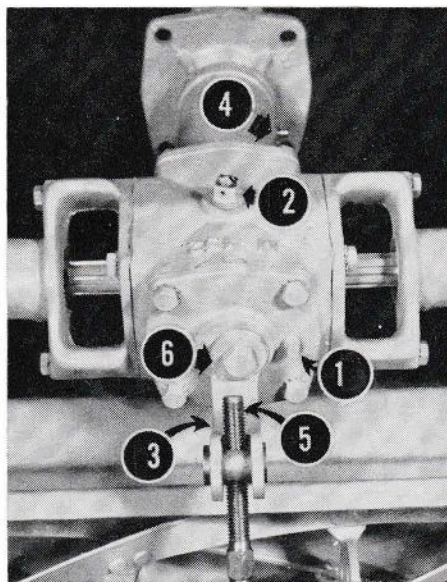

Figure 17
Check the Gear Housing oil level every four hours of operation by removing the Oil Level Plug, 1 in Figure 17. If oil runs out, the oil level is all right; if not, oil must be added.
To add oil, remove the Oil Filler Plug, 2 in Figure 17, and pour through the Oil Filler Hole until oil begins to run out the Oil Level Hole (too much oil will cause over-heating and consequent gear damage). Replace both Plugs before resuming mowing.
Change oil in the Gear Housing at least annually. To drain, remove the entire Strut Casting, 3 in Figure 17; replace after the oil has drained. Add oil as instructed above.
Use General Purpose Grease occasionally in the grease fittings on the Swivel Casting, 4 in Figure 17, and as required in the grease fittings for the Reel Bearings, arrow in Figure 18. It is important to lubricate properly the Reel Bearings, as the grease forms a water seal around each Bearing, preventing rust. Use General Purpose Grease as required in the grease fittings on the Roller Bar.
Turn the Height Adjusting Screw, 5 in Figure 17, clockwise to raise the cutting height; turn it counter-clockwise to lower the cutting height.
1. Loosen the bolt on the front of the Gear Housing, 6 in Figure 17.